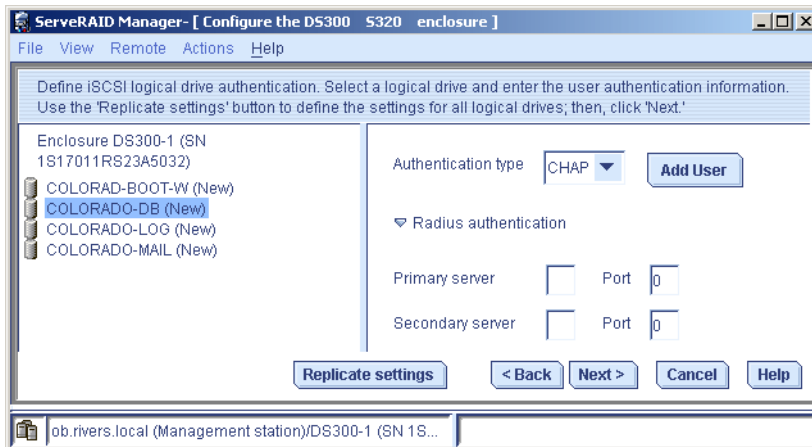

Figure 4-77 Authentication type of logical drive COLORADO-DB
22. Click **Next** in Figure 4-77.